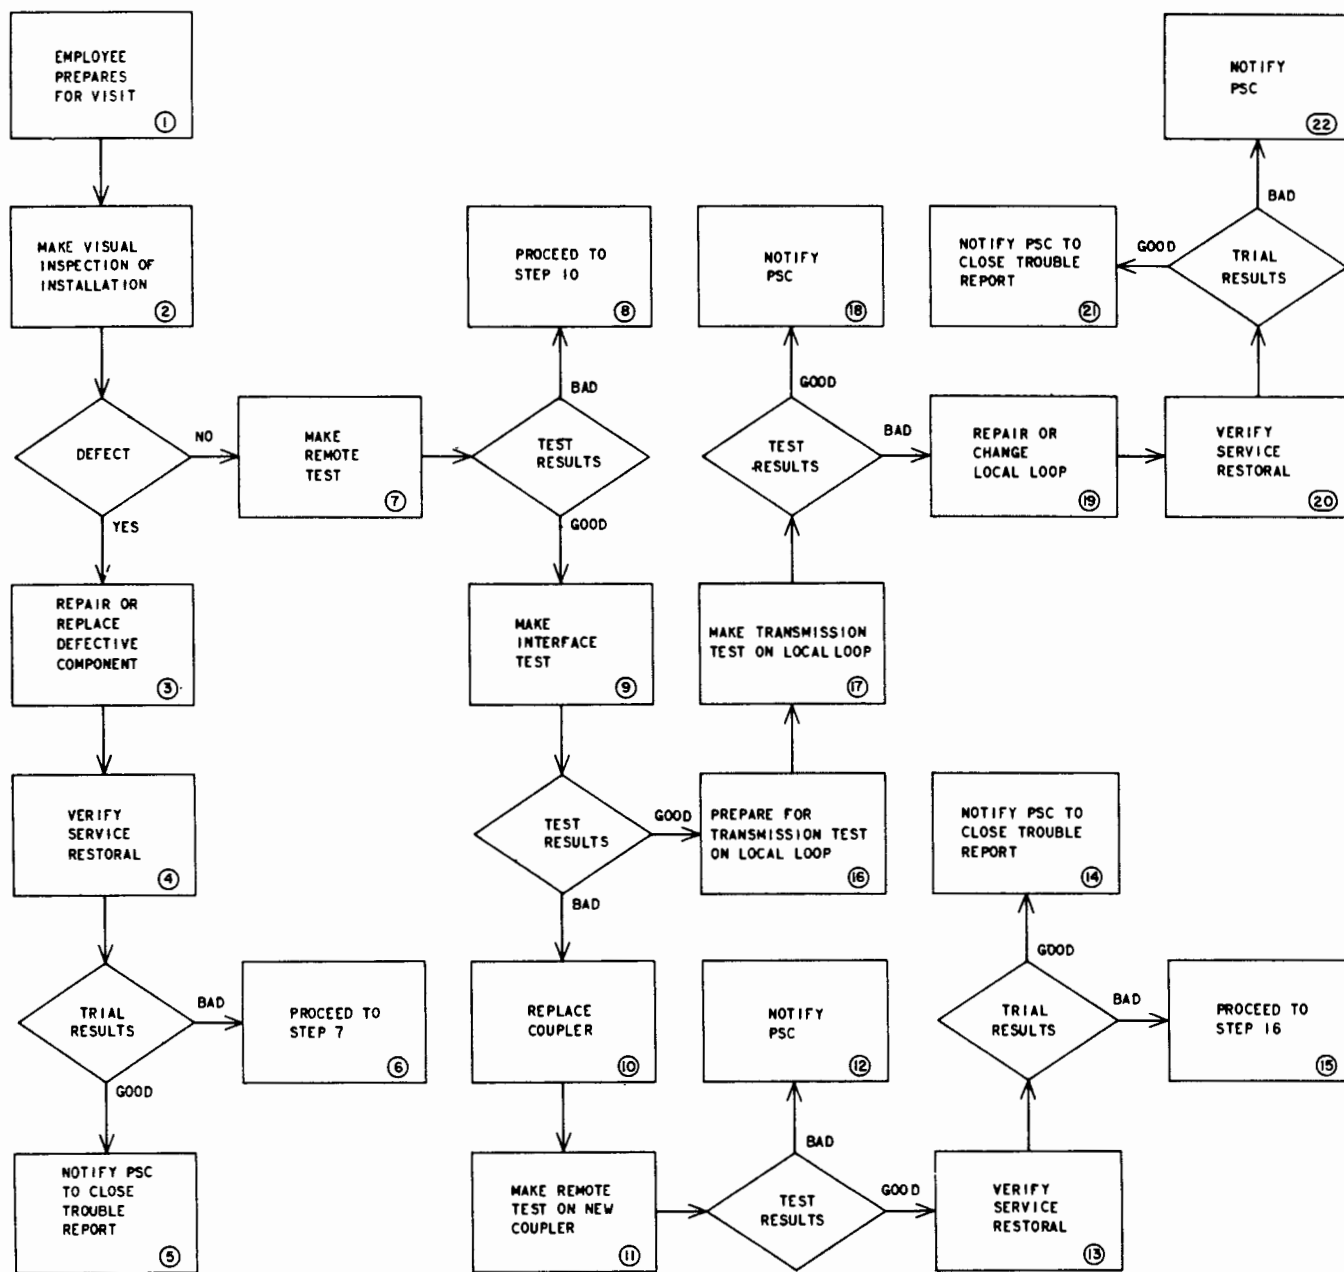

Fig. 10—Activities for Clearing or Troubleshooting Trouble at a Coupler Station
**4.06** On a maintenance visit, the employee should proceed to perform the most likely necessary tests or evaluations to isolate and clear the trouble within the station as directed by the PSC. The employee may begin with the steps shown in Fig. 9 when the test results and analysis received from the PSC lead to that particular activity. If a trouble report is not available or if the report is inconclusive, it is recommended that the employee follow the suggested sequence of activities as illustrated in Fig. 10 and described in the following.